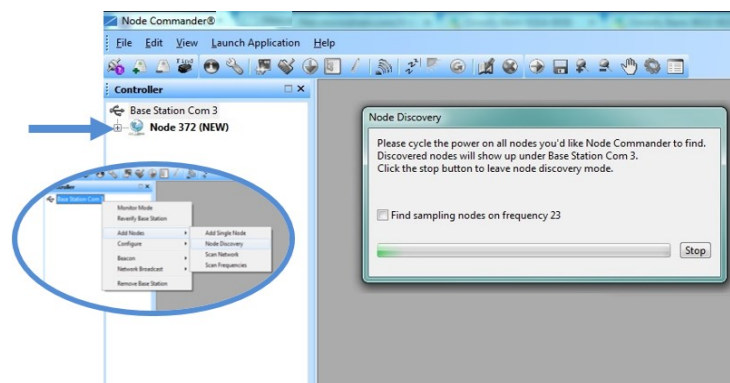

Figure 39 - Using Node Discovery
1. Right-click on the gateway name and select Add Node > Node Discovery (Figure 39 - Using Node Discovery).